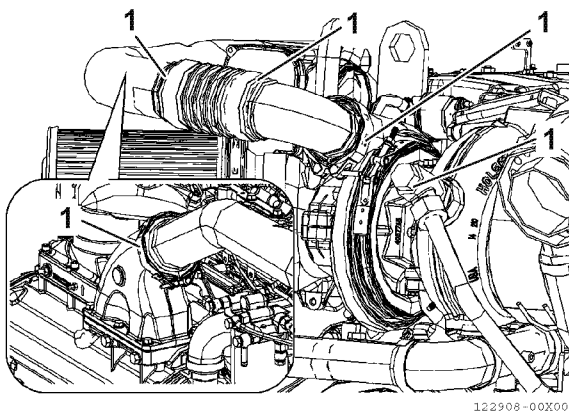

Figure 2
Check that the hose clamps (**Figure 2, (1)**) are tightened. Visually check that the charge air system is not blocked or damaged.